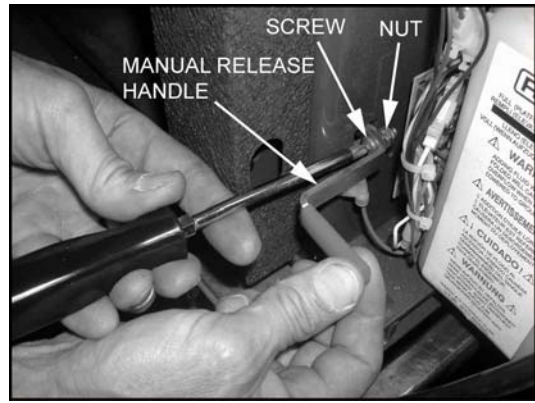

FIGURE 3-36
12. Refer to **Figure 3-36**. Remove screw and nut to detach manual release handle from stow-lock assembly and retain hardware.